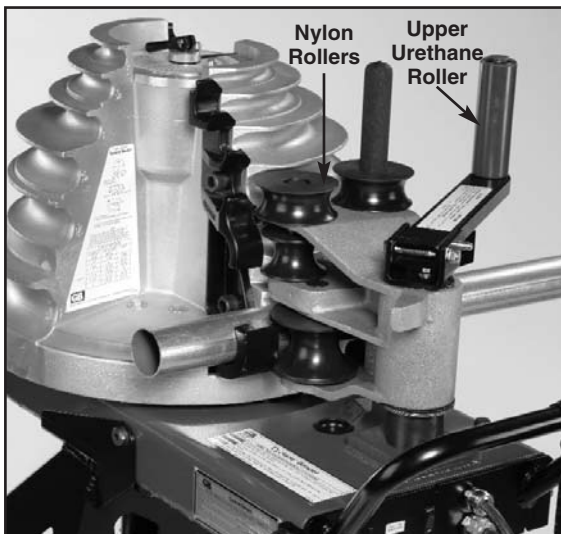

Figure 9. Locking in Roller Support
5. Grasp the upper urethane roller and move the support arm counterclockwise until it contacts the roller housing. The two nylon rollers should have moved against the conduit and should firmly hold the conduit in the shoe. See Figure 9.